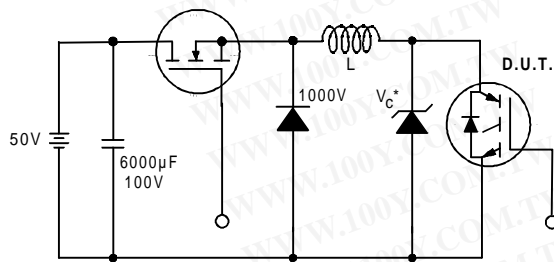

Figure 19. Clamped Inductive Load Test Circuit
- ②  $V_{CC}=80\%(V_{CES})$ ,  $V_{GE}=20V$ ,  $L=10\mu H$ ,  $R_G = 10\Omega$  (figure 19)
- ③ Pulse width  $\leq 80\mu s$ ; duty factor  $\leq 0.1\%$ .
- ④ Pulse width  $5.0\mu s$ , single shot.